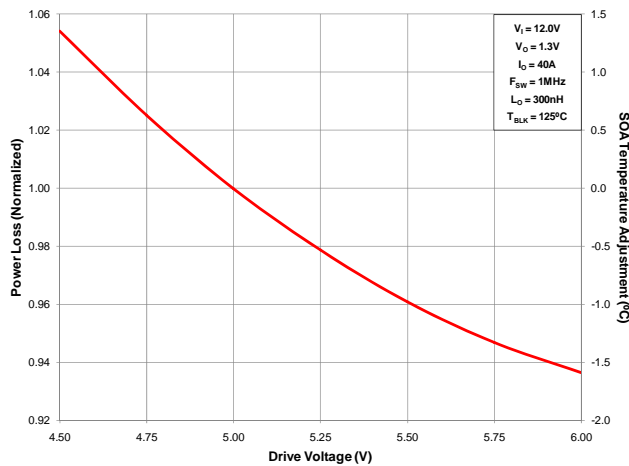

Figure 5 Normalized Power Loss versus Drive Voltage
- (Figure 5) Normalized power loss for drive voltage (V_{DD}) ≈ 0.96
- (Figure 5) SOA temperature adjustment for drive voltage (V_{DD}) $\approx -0.8^{\circ}\text{C}$